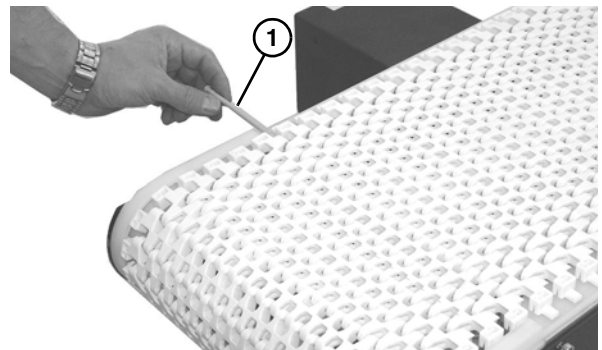

Figure 25
1. Use a punch and hammer to push the belt rod (Figure 25, item 1) out by striking the rod end opposite the retaining head.